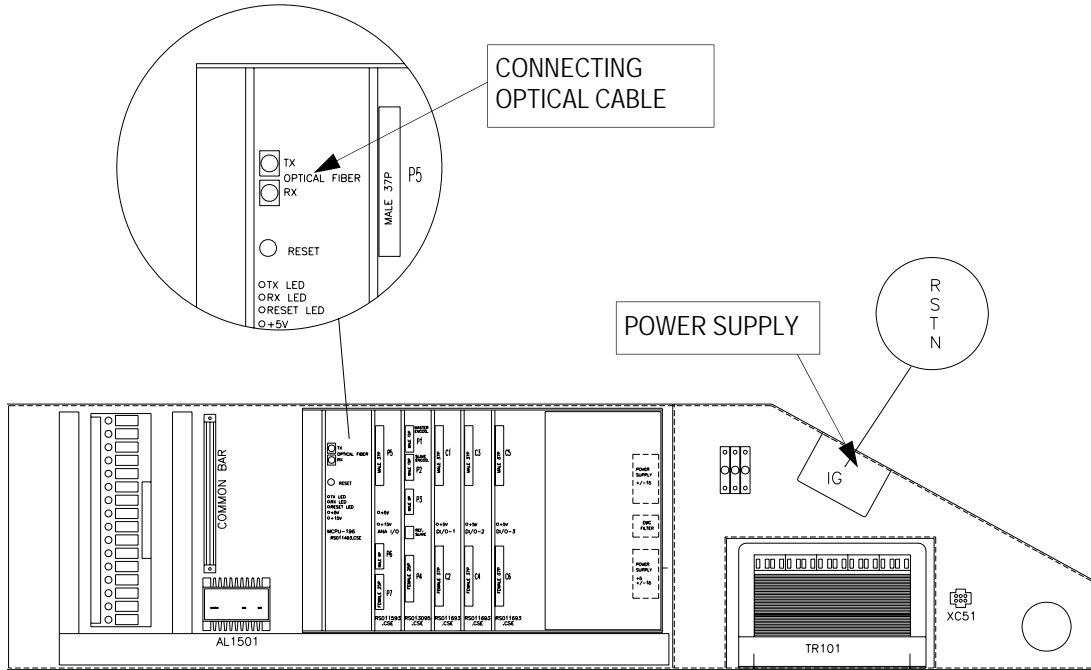
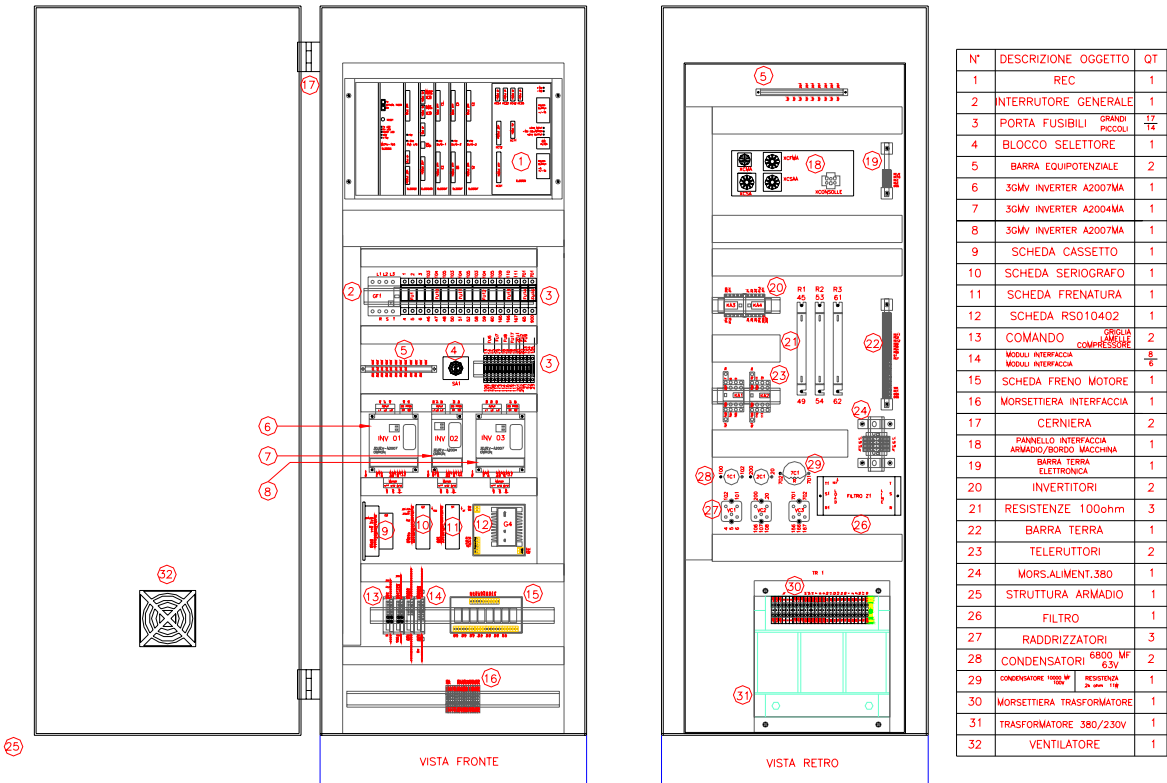

fig.1.13: DELTA 30
fig.1.14: DELTA 90-90PLUS
Connect the electrical cabinet to the main power supply as shown in fig.1.13 in case of DELTA 30 and as shown in fig. 1.14 in case of DELTA 90-90PLUS.
- Connect the PC with the **CATWIN** software installed to the optical fiber like in *DELTA 90-90PLUS* on the micro-card inside the electronic rack, and in case of *DELTA 30* as shown in *fig.1.13*. Turn on the PC and launch the program using the PC keyboard, check whether the status inputs are configured according to *Table 1. part 5*, if not check the service connectors referring to *Table 2 part 5*.